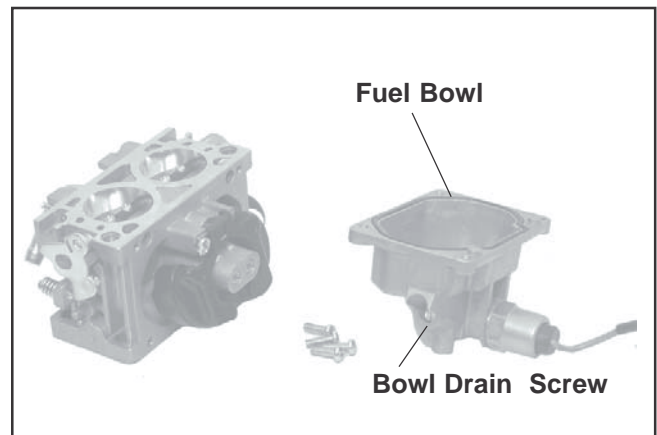

Figure 5-18. Fuel Bowl Removed From Carburetor.
1. Clean the exterior surfaces of dirt or foreign material before disassembling the carburetor. Remove the four mounting screws and separate the fuel bowl from the carburetor. Transfer any remaining fuel into an approved container. Remove and discard the old O-Rings. Fuel can also be drained prior to bowl removal by loosening/removal of the bowl drain screw. See Figure 5-18.